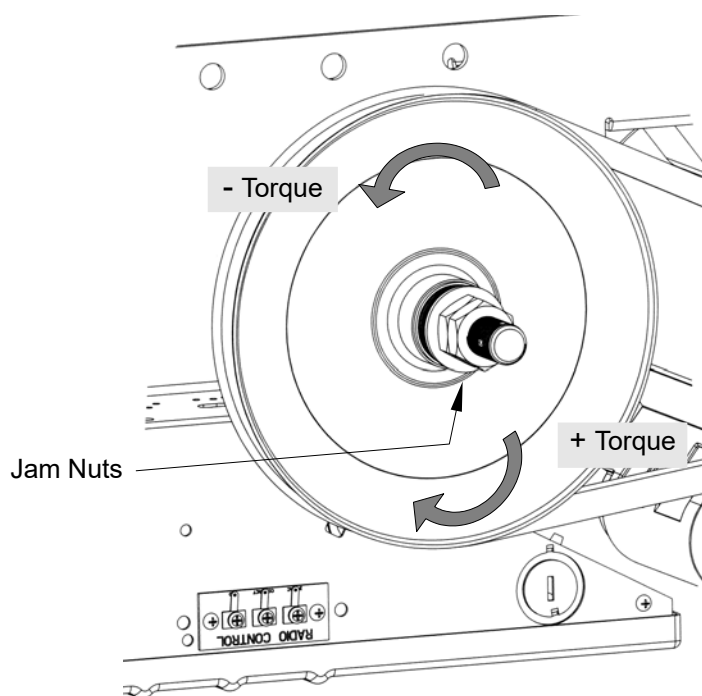

Figure 37 - Clutch Adjustment
1. Unlock the jam nuts with two (2) 7/8" keys, refer to Figure 37.